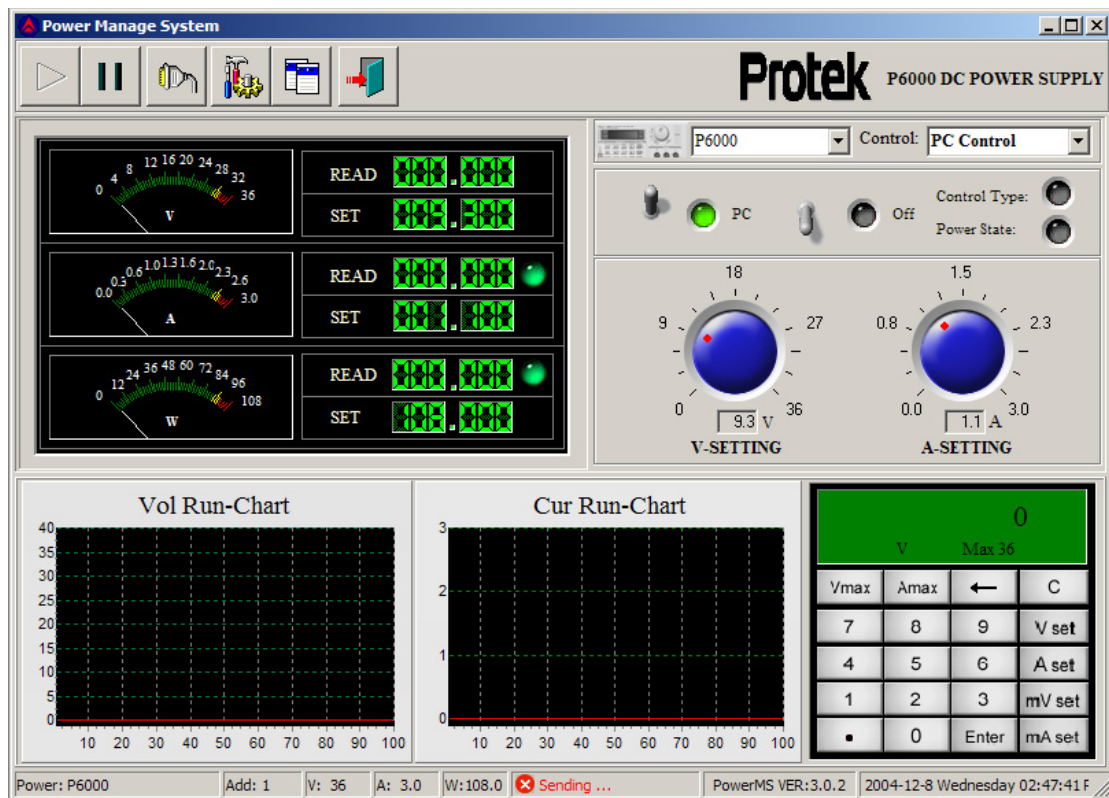

Fig. 3-10 The PowerMS Main Control Window
- 3.2.3 After the system initialization, the main control window will be displayed as shown in Fig. 3-10.